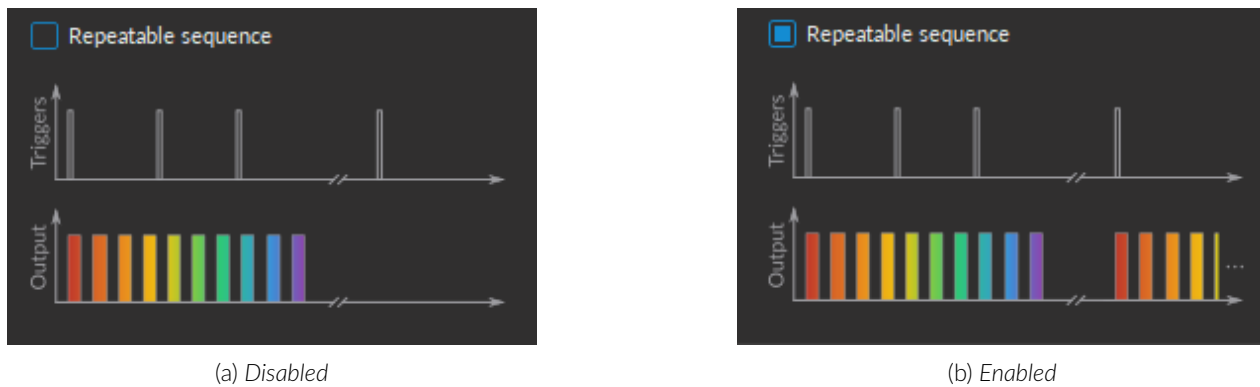

Figure 10.28: Repeatable sequence
8. The **Repeatable sequence** checkbox (Fig. 10.24, 8), when enabled, will run the sequence when additional TTL pulses are received (Fig. 10.28).